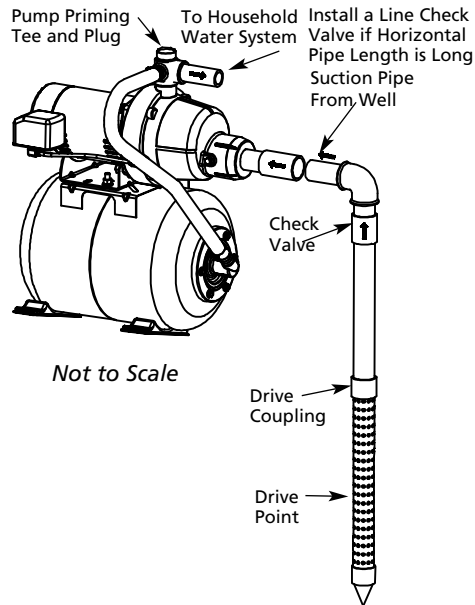

Figure 3 – Driven Point Installation
(see Figure 3)
3. Use the fewest possible fittings (especially elbows) when connecting the pipe from the well point to the pump suction port. The suction pipe should be at least as large as the suction port on the pump (include a check valve – see Figure 3). Support the pipe so that there are no dips or sags in the pipe, so it doesn't strain the pump body, and so that it slopes slightly upward from the well to the pump (high spots can cause air pockets which can air lock the pump). Seal the suction pipe joints with PTFE tape or a PTFE based pipe joint compound. Joints must be air- and water-tight. If the suction pipe can suck air, the pump cannot pull water from the well. If one well point does not supply enough water, consider connecting two or three well points to one suction pipe.